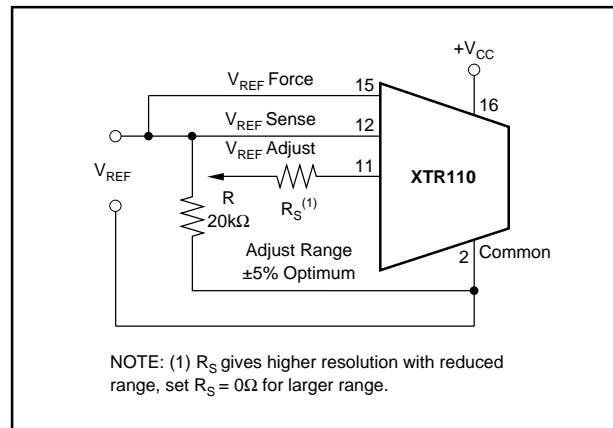

FIGURE 3. Optional Adjustment of Reference Voltage.
NOTES: (1) Including internal reference. (2) Span is the change in output current resulting from a full-scale change in input voltage. (3) Within compliance range limited by  $(+V_{CC} - 2V) + V_{DS}$  required for linear operation of the FET. (4) For  $V_{REF}$  adjustment circuit see Figure 3. (5) For extended  $I_{REF}$  drive circuit see Figure 4. (5) Unit may be damaged. See section, "Input Voltage Range".
3 should be connected to this point. The circuit in Figure 3 shows adjustment of the voltage reference.